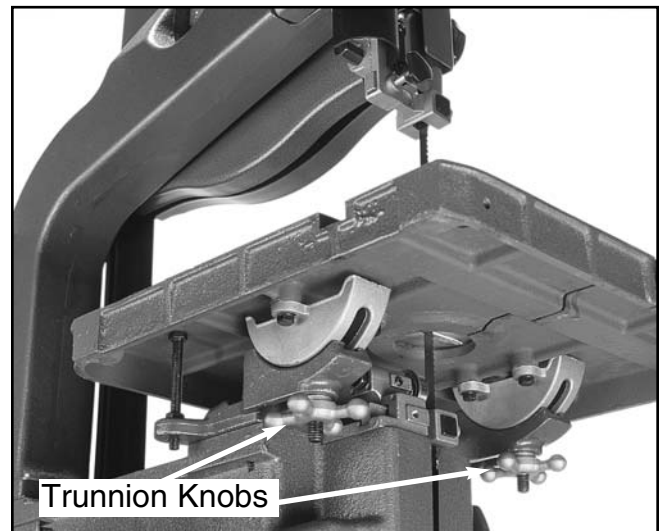

Figure 28. Table tilt trunnion knobs.
1. Loosen the two trunnion knobs below the table trunnions. **See Figure 28** for location.